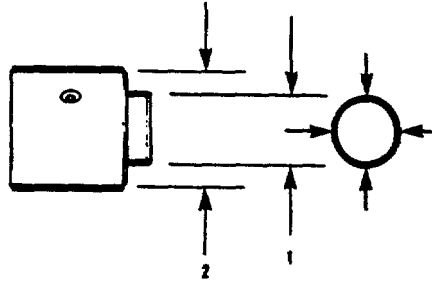

FIGURE 4-86a. Camshaft Idler Shaft Measurement.
- m. Check piston cooling nozzle (36) for cracks, bends, and other damage. Check spray holes for burrs. Do not remove pipe plug (34). Replace nozzle if damaged.
- n. Clean engine lifting fixture bracket (68), washer (69), and capscrew (70). Check for cracks, rust, and corrosion. Replace if damaged.
- (1) Check idler shafts for cracks, bends and other damage.
- (2) Measure camshaft idler shaft (47) outside diameter.
- (3) Verify outside diameter is between 0.9995 and 1.000 inch (25.397 and 25.400 mm) at location 1 in FIG. 4-86a. Verify outside diameter is between 1.8720 and 1.8740 inch (47.549 and 47.600 mm) at location 2.
- (5) Verify outside diameter is between 1.6995 and 1.7000 inch (43.167 and 43.180 mm) at location 1 in FIG. 4-86a. Verify outside diameter is between 1.8720 and 1.8740 inch (47.549 and 47.600 mm) at location 2.
- (6) Replace idler shafts if damaged or not to specifications.